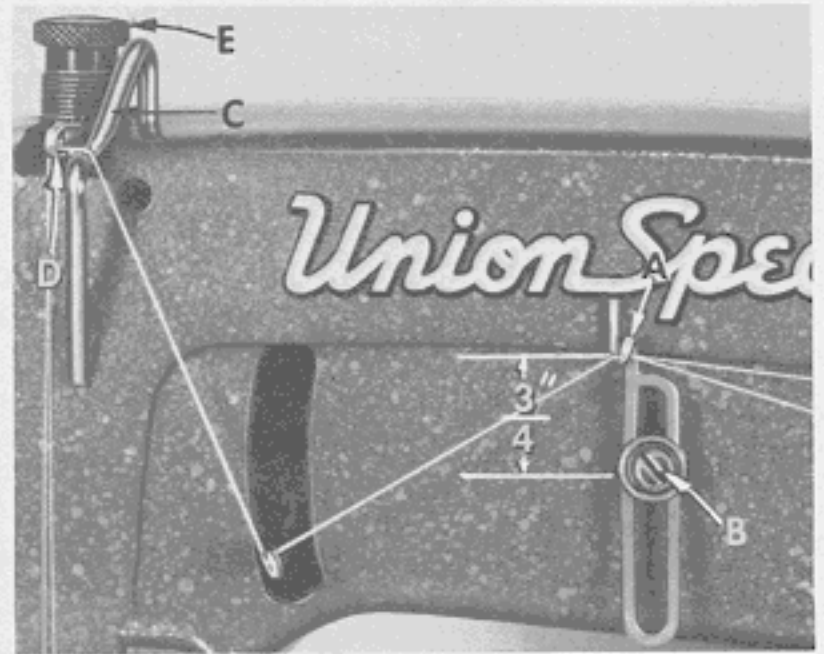

Fig. 13
Set the needle thread frame eyelet hole (A, Fig. 13) $3/4$ inch above the center of mounting screw (B). Lower for more needle thread in the stitch, raise for less. Top of take-up wire (C) to be even with top of holes in the needle thread eyelet (D) when needle bar is at the bottom of its stroke. Lower this setting for less needle loop, reverse for more loop.
Regulate the presser spring regulating screw (E, Fig. 13) so that it exerts only enough pressure on the presser foot to feed the work uniformly when a slight tension is placed on the fabric. Turning it clockwise increases the pressure, counterclockwise acts the reverse.